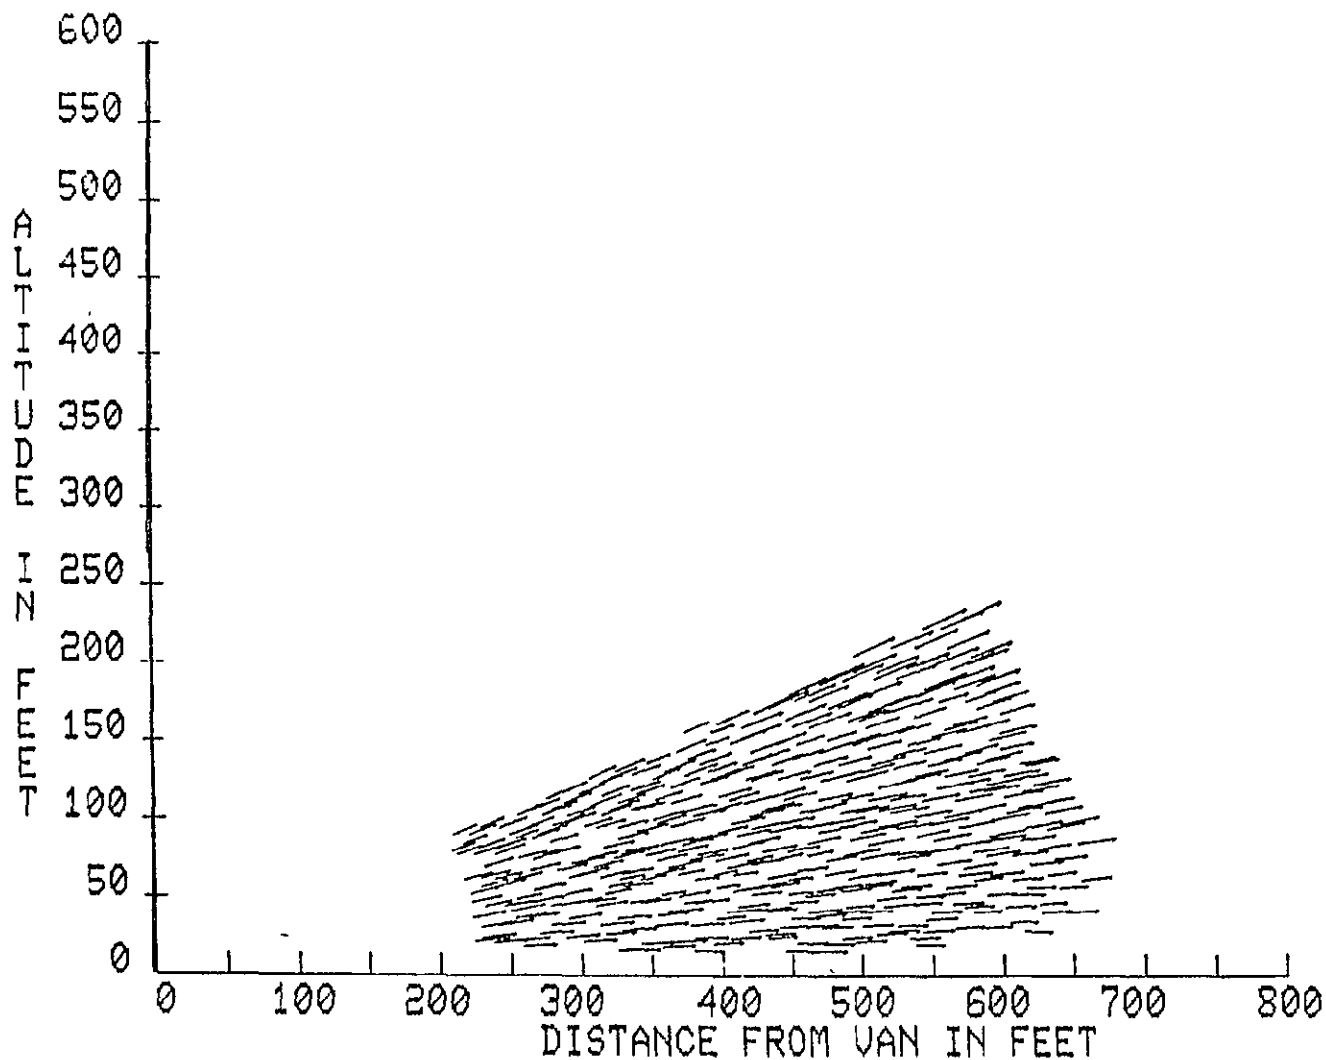

Figure 8-4
- o Line of Sight Velocity Flow Field (Display 31) (Figure 8-4):